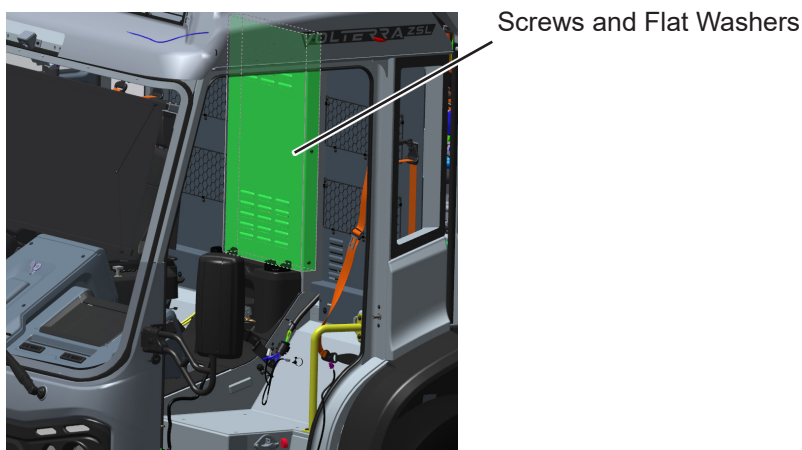

Figure 6
15. Apply Loctite® 242 (following package instructions) to threads of screws removed in Step 8 and reinstall screws and flat washers around perimeter of the panel. See Figure 6. Final tighten of screws to 75 in.-lbs.